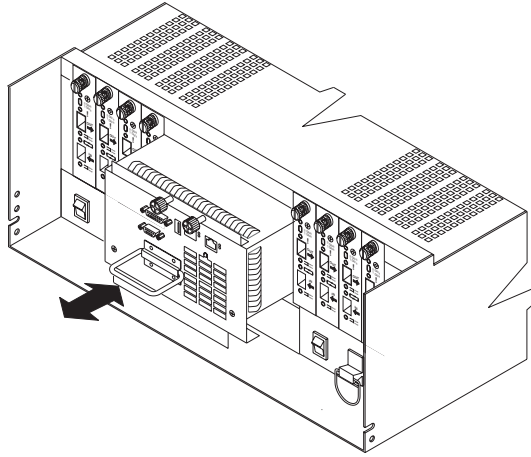

Figure 42. Removing and installing a fan and communications module
The fan and communications module is a single, removable unit containing two cooling fans and two Ethernet ports. This module plugs into a slot at the center back of the FAST700 Storage Server, just above the power supplies (see Figure 42 on page 48). It has a locking lever and a pull handle for securing and removing the fan and communications module. The module contains dual fans that provide a redundant cooling system to both power supplies. If one fan within the module fails, the other continues to operate. A single fan provides sufficient air circulation to prevent the power supplies from overheating until you can replace the entire fan and communications module.
2. Using Figure 42 as a guide and use the following steps to remove the failed fan and communications module from the FAStT700 Storage Server.